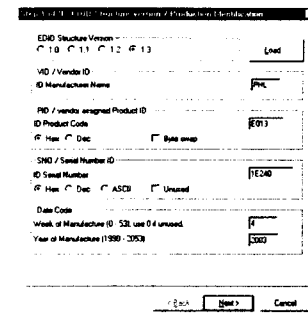

Fig. 14
1. Click (new function) icon from the tool bar, bring up Step 1 of 9 as shown in Fig. 14. EDID301 DDC application provides the function selection and text change (select & fill out) from Step 1 to Step 9.